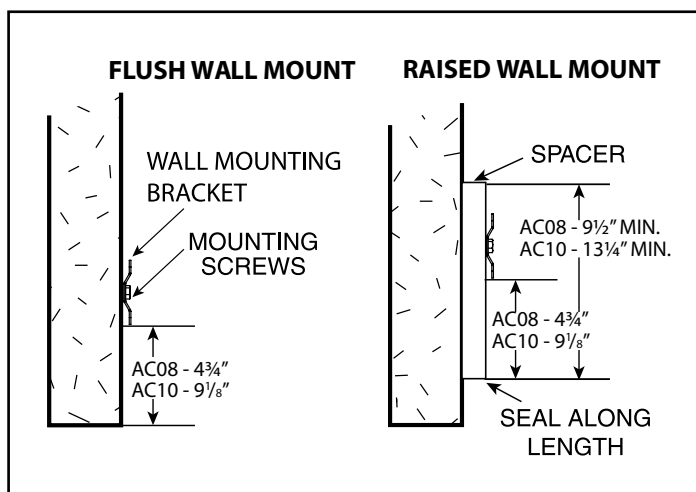

Figure 3 - Wall Mounting Location
- B. For optimum performance, the bottom of the air curtain (discharge nozzle) should be no more than 1" above the top of the door opening with the air curtain(s) mounted flush to the wall. If the air curtain must be mounted higher, it must be spaced out from the wall 3/8" for every inch the air curtain is above the door opening. **See Figure 3.** For optimum protection, any void between the air curtain and the wall should be sealed along the full length of the air curtain.
1. Position one wall mounting bracket over the door opening as shown in **Figure 3**. The bracket should be centered over the door opening. NOTE: For units longer than 120", install two wall mounting brackets in tandem across the door opening.